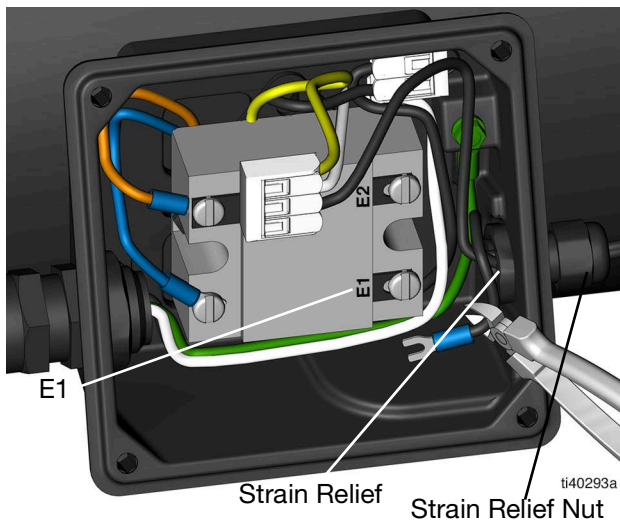

FIG. 16
8. Use a screw driver to disengage pressure switch wire from E1. Unplug the other pressure switch wire from the connector containing the yellow and white cables (FIG. 16).
9. Cut the pressure switch wire (FIG. 16) with the fork connector.
10. Loosen the strain relief nut (FIG. 16).
11. Pull the pressure switch wire out of the terminal box through the strain relief (FIG. 16).